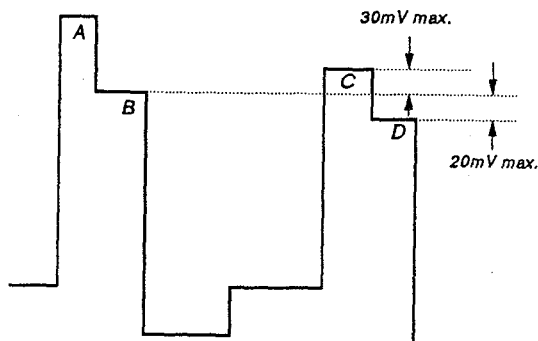

Fig. 13
5. Using **R-Y LEVEL COMPONENT**, adjust so that the tops of the waveform line up as in the diagram below. (Fig. 13)